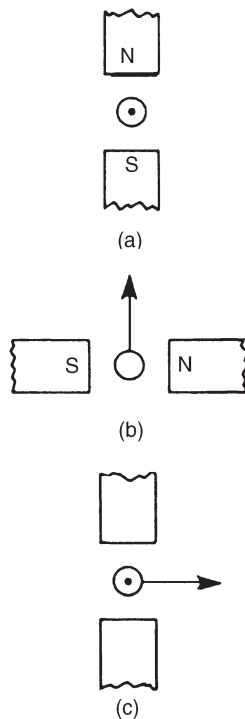
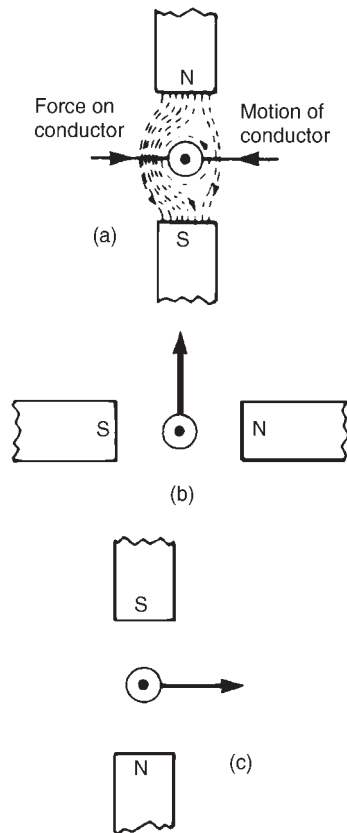

Figure 9.4
Figure 9.5
Problem 5. The diagram shown in Figure 9.4 represents the generation of e.m.f.'s. Determine (i) the direction in which the conductor has to be moved in Figure 9.4(a), (ii) the direction of the induced e.m.f. in Figure 9.4(b), (iii) the polarity of the magnetic system in Figure 9.4(c).
- (i) Using Lenz's law: The field due to the magnet and the field due to the current-carrying conductor are shown in Figure 9.5(a) and are seen to reinforce to the left of the conductor. Hence the force on the conductor is to the right. However Lenz's law states that the direction of the induced e.m.f. is always such as to oppose the effect producing it. **Thus the conductor will have to be moved to the left.**
SEcond finger — E.m.f., i.e. **towards the viewer or out of the paper**, as shown in Figure 9.5(b)
- (iii) The polarity of the magnetic system of Figure 9.4(c) is shown in Figure 9.5(c) and is obtained using Fleming's right-hand rule.